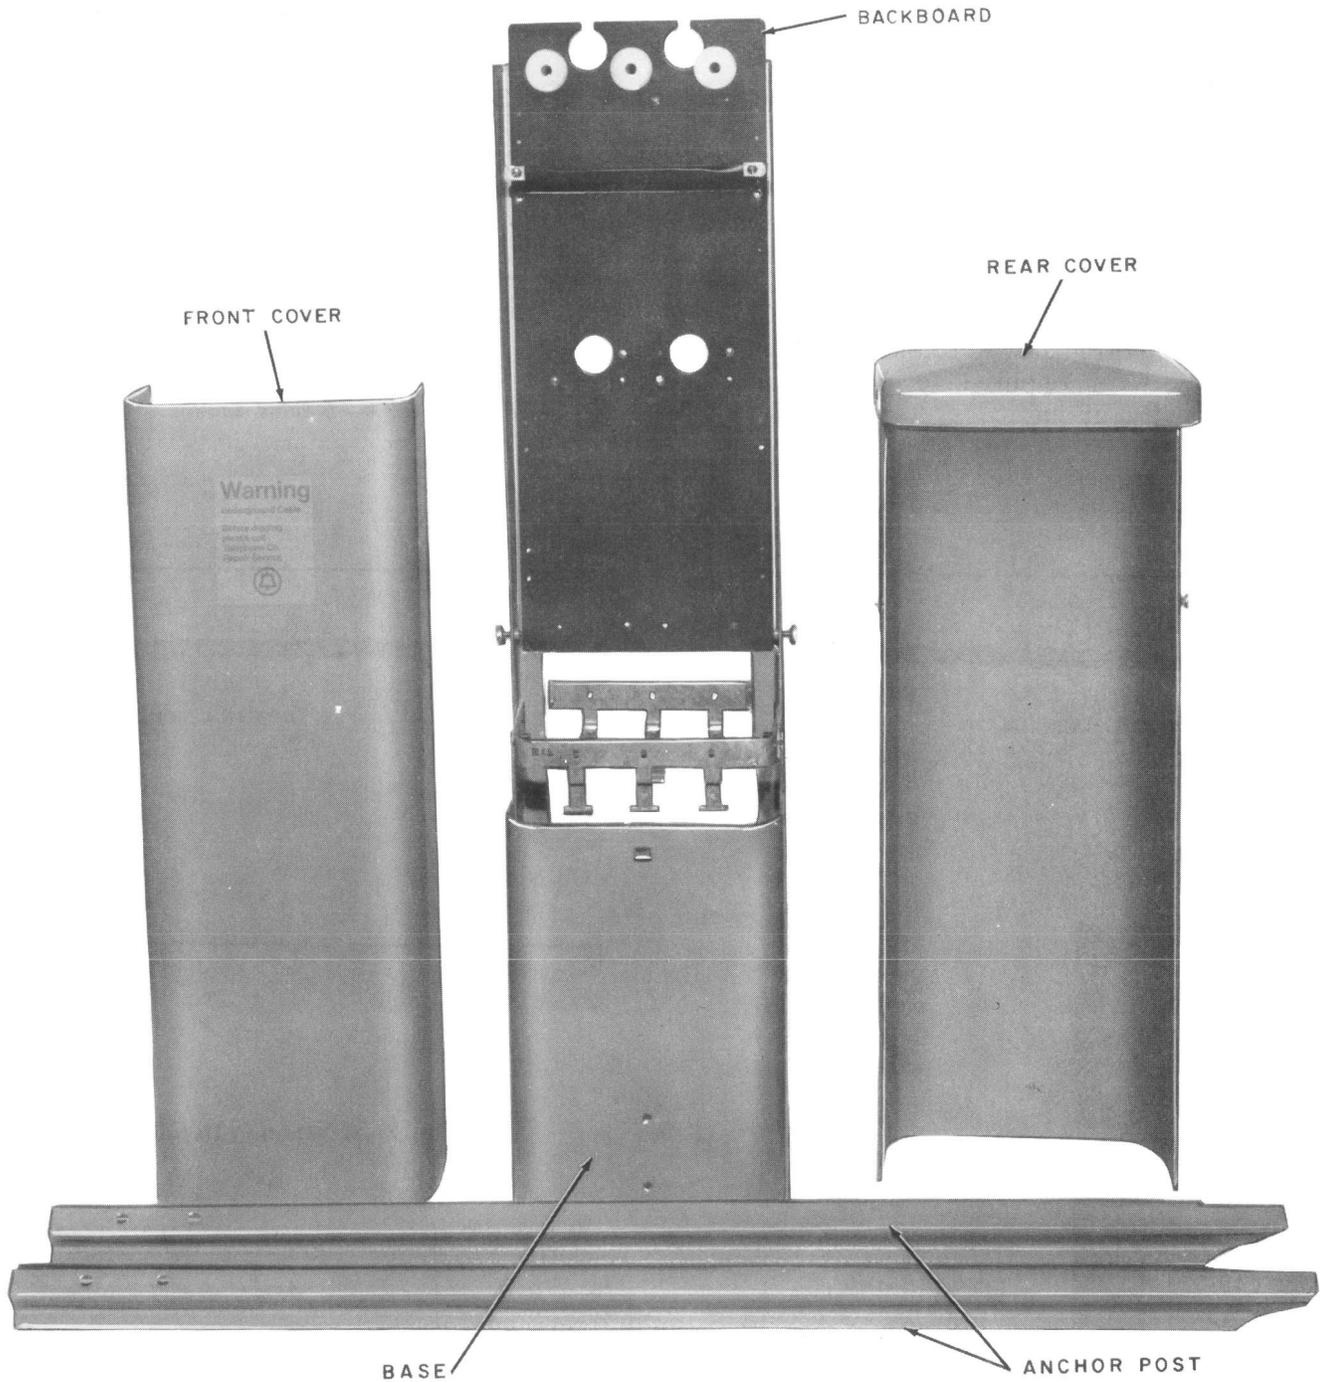

Fig. 3—LG-10/43 Cable Closure
3.03 The LG-10/43 cable closure (Fig. 3) consists of a front and back cover, base, two anchor posts, backboard, and splice support bracket. The